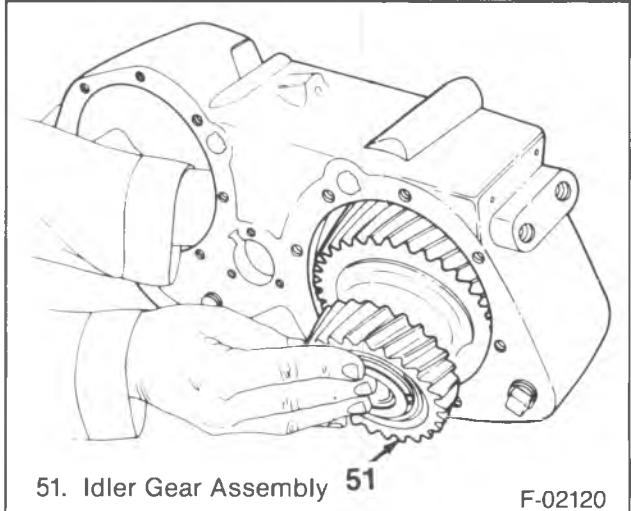

Figure 11—Idler Gear Assembly Installation
3. Idler gear assembly with Tool-A into the case. Go through the front output bore, large end first (figure 11).
4. Idler shaft (54) from the large bore side.